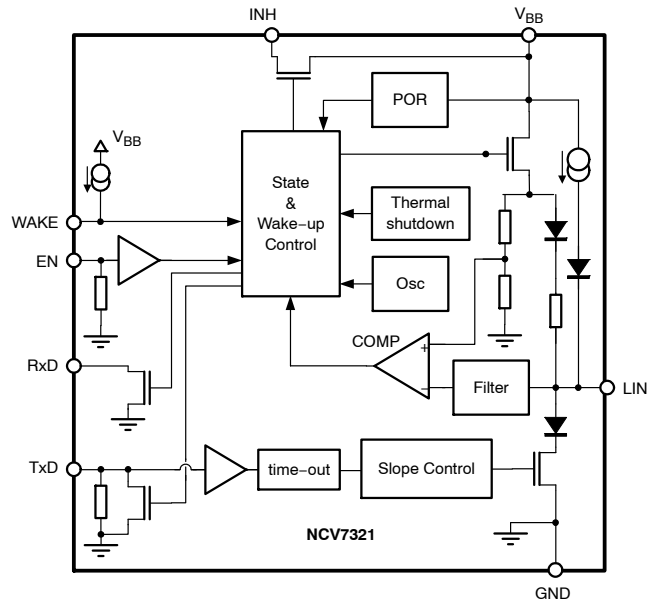

Figure 1. Block Diagram
10. The voltage drop in Normal mode between LIN and V_{BB} pin is the sum of the diode drop and the drop at serial pull-up resistor. The drop at the switch is negligible. See Figure 1.
10. The voltage drop in Normal mode between LIN and VBB pin is the sum of the diode drop and the drop at serial pull-up resistor. The drop at the switch is negligible. See Figure 1.